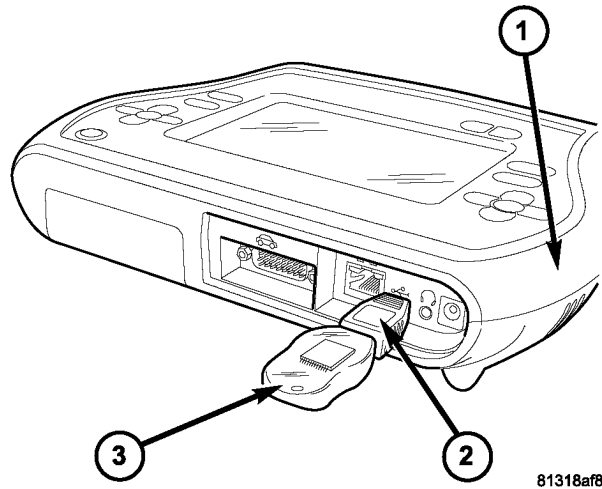

Fig. 2 USB KEY, GENDER CHANGER, AND StarSCAN
8. With the StarSCAN® powered OFF, connect the USB Key and Gender Changer to the StarSCAN® USB port (Fig. 2).